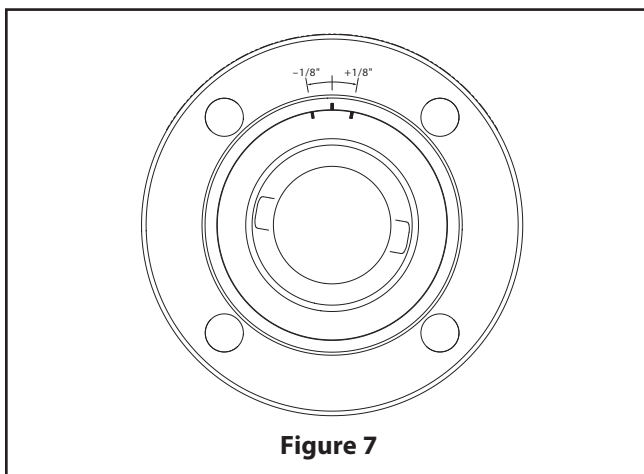

Figure 7
15. Insert the body seal (65) onto the insert (2).
16. Make sure there is no dirt and grit in the insert (2) threads. Using a thread lubricant compatible with the media, screw the insert (2) into the body (1) and tighten the insert. The insert field wrench (shown in **Figure 8**) maybe used. If the field wrench is used to thread the insert into the body, follow insert field wrench assembly instructions found in **DISASSEMBLY** Step 9 of this IMO. The insert must be tightened the same number of turns as in step 12, insuring that the marks are either lined up or insert mark is $\pm 1/8$ " either side of the body mark, as shown in **Figure 7**.